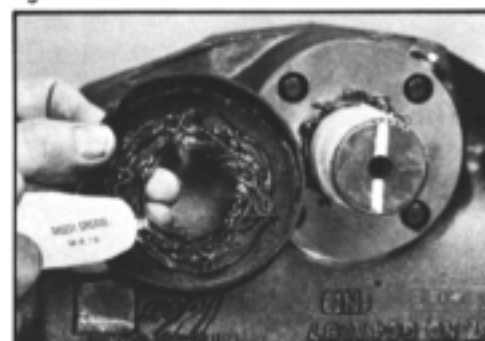

Figure 162
55. Add more of the special grease to the cupped side of protector seal (61) and assemble over sector shaft (51) and trunnion cover (59). SEE FIGURE 162.